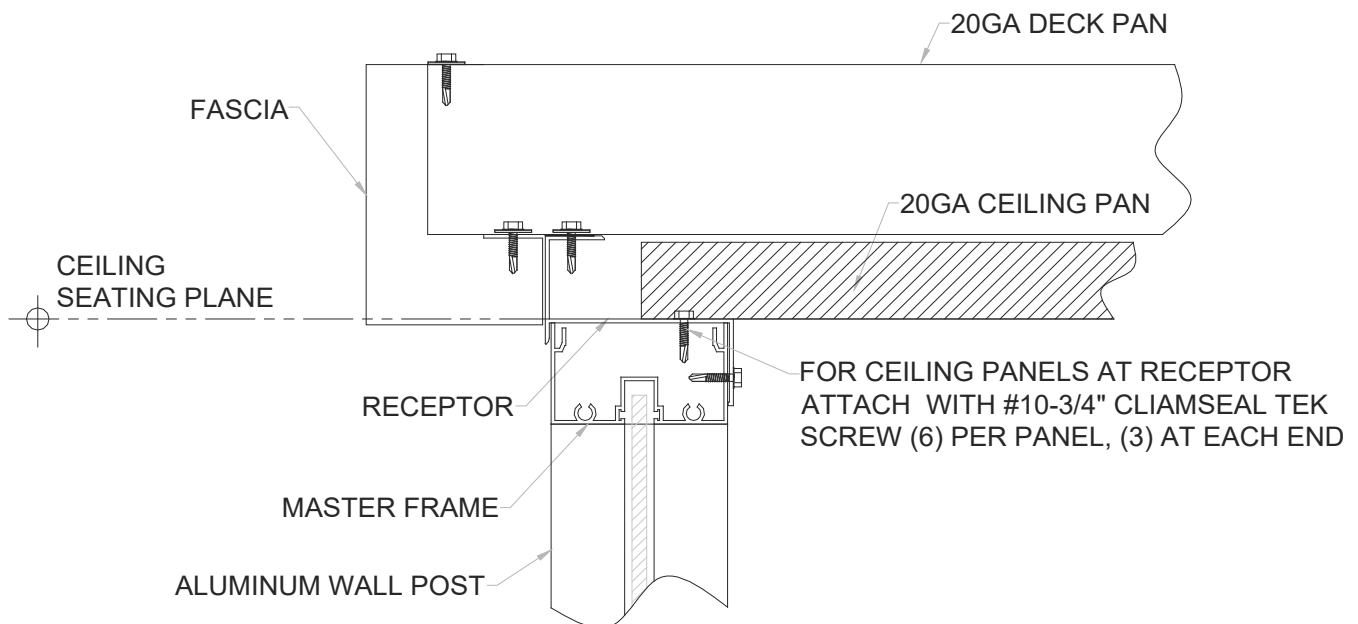

FIGURE 2a: Installation of interior ceiling panels.
As you can see from Figure 2a, the ceiling panel is placed on top of the receptor with the white finish toward the interior of the shelter. Space the panels evenly across the shelter and attach them by using #10 x 3/4" climaseal tek screws with (6) per panel, (3) at each end. You will need to start with the first panel and attach before installing the remaining panels. Be sure to push the remaining panels tight to the previously installed panels to be sure that they will fit at the last end wall. Remember to strip off protective plastic on the interior side. See **Ceiling Layout** attached and **Figure 2a** below.